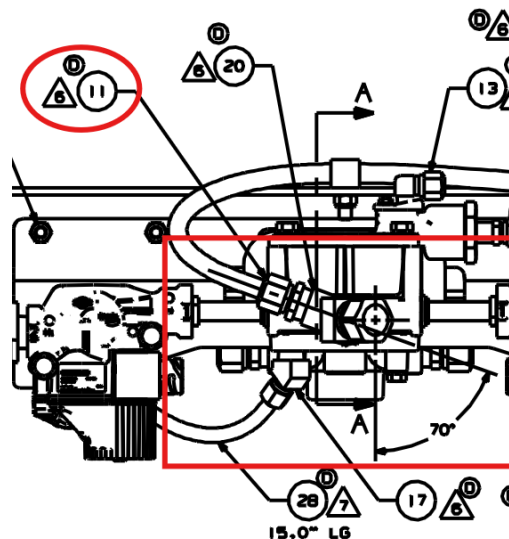

Figure 3: Fitting Installation Angle
- The fitting should be at 70 degrees to the port as shown below in Figure 3.